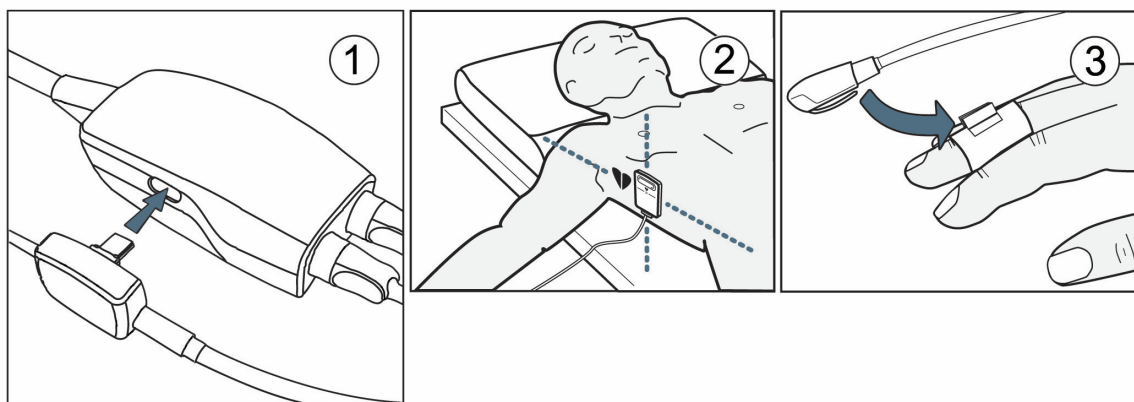

Figure 9-7: Heart reference sensor application
1. Connect the HRS to the wrist applied pressure controller. See (1) in Figure 9-7 on page 108.
- Apply the heart end of the HRS to the patient at phlebostatic axis level by using an HRS clip. See (2) in Figure 9-7 on page 108.
- Attach the other end of the HRS to the finger cuff. See (3) in Figure 9-7 on page 108.